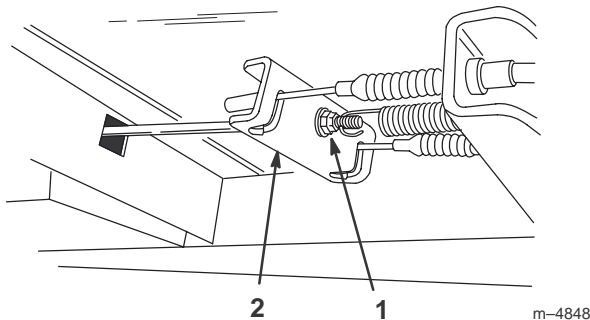

Figure 31
3. Tighten the cable adjusting screw, located beneath the floor panel, until the cables are snug in the brake equalizer (Fig. 31). Do not overtighten the screw. There should be some free play in the brake pedal before the brake engages.